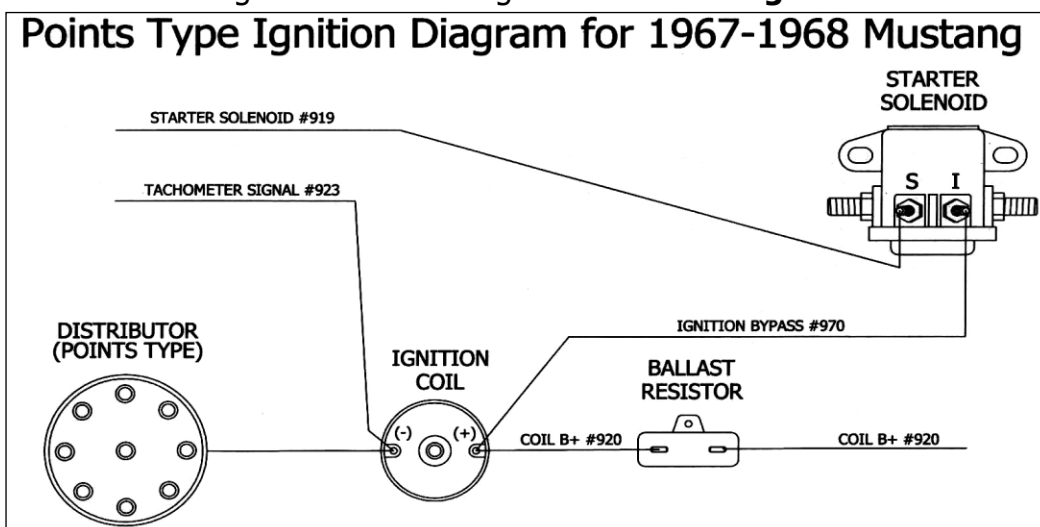

Figure 7-5 Points Type Ignition Diagram
7.3 Engine Section See Figure 7-5.
7.3.3 ENGINE SECTION wire #970 is used both on a point's type ignition system and a Duraspark II System. It is to be connected directly to the positive post on the ignition coil or the coil feed side on the ballast resistor. The other end is to be connected to the "I" terminal on the starter solenoid. **See Figure 7-5.**
7.3.4 Connect ENGINE SECTION wire #919 to the "S" terminal on the starter solenoid. If using a Tachometer, connect ENGINE SECTION wire #923 to the negative side of the ignition coil. **See Figure 7-5**